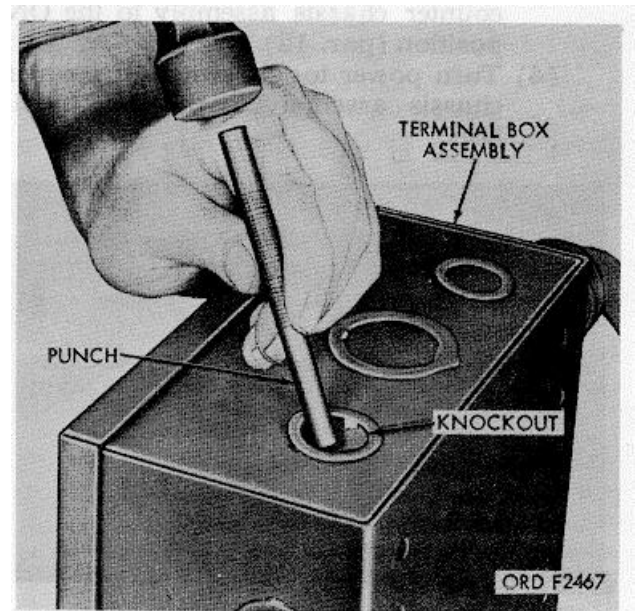

Figure 7. Removing knockout from terminal box assembly.
e. Using a hammer and punch, remove knockouts, as necessary, to accept field wires from utility boxes (fig. 7).
- (1) From the utility box assembly connected to the indicator light on the target,